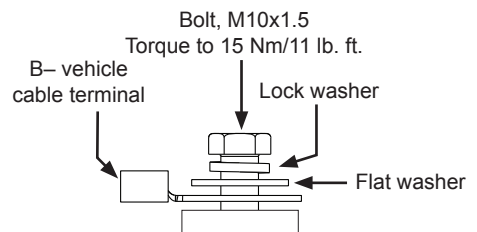

Figure 3: B- Terminal Hardware Stacking Order
6. Connect vehicle B- cable to alternator B- terminal and install terminal hardware in stacking order shown in Figure 3. Torque hardware to 15 Nm/11 lb. ft.